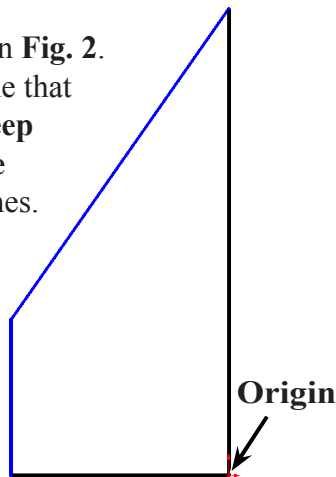

Fig. 2
Step 4. Starting at the Origin  draw lines in **Fig. 2**. Use the inferencing line, the dotted line that appears when you draw the lines to **keep bottom line horizontal and right side line vertical**. Do not add any extra lines.